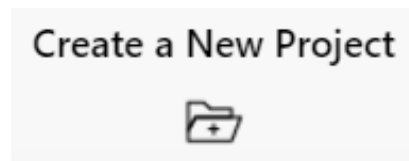

Figure 18. Create project icon.
2. Click on the icon of a folder with the plus sign to create a new project (Figure 18). This will open a File Explorer window.